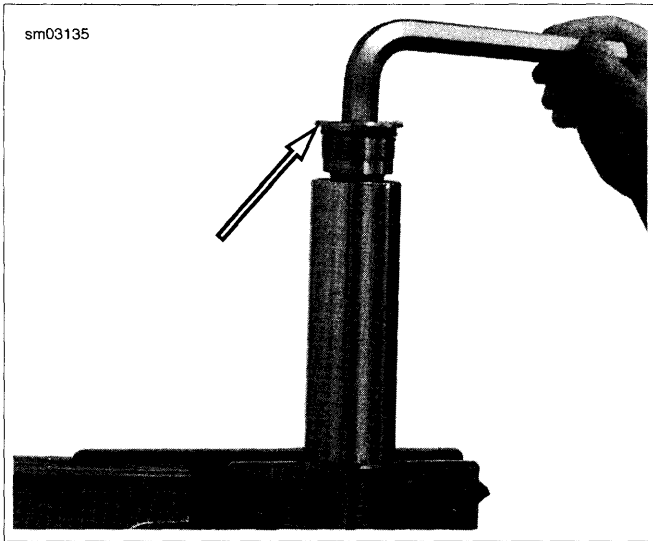

Figure 2-145. Clamp Fork and Remove Fork Cap
1. See Figure 2-145. Using FORK HOLDING TOOL (Part No. HD-41177), mount fork assembly in vise.